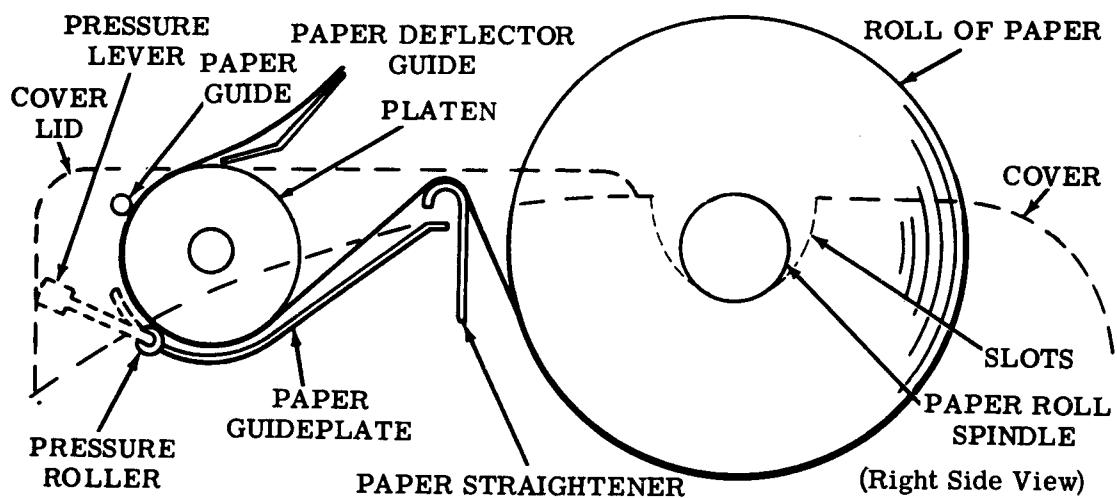

Figure 12 - Paper Threading — Friction Feed
3.11 A friction feed teletypewriter set accommodates a standard roll of paper 8-1/2 inches wide and 5 inches in diameter. Figure 12 illustrates paper threading for a friction feed typing unit.